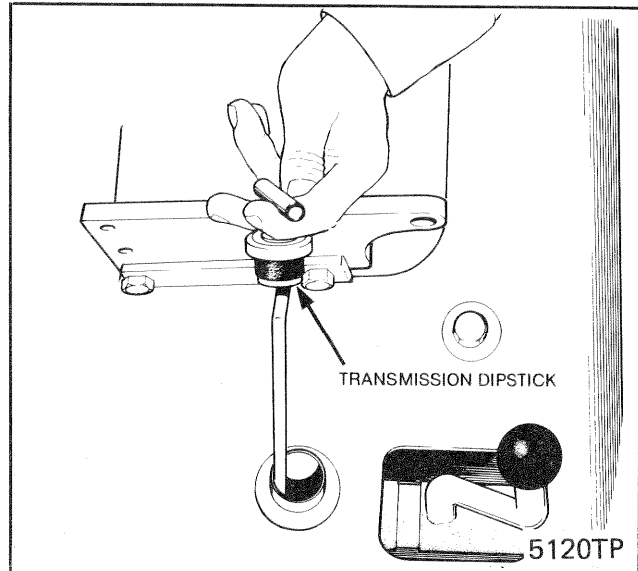

Fig. 9-1 Transmission Filler Neck and Dipstick
Check using the dipstick located on the right hand side of operator seat (See Fig. 9-1 for the position). Pull out dipstick and wipe with a clean, lint free cloth. Re-insert to check the fluid level, pushing the dipstick down firmly. The fluid level must be at the FULL mark on the dipstick. If the fluid level is below the FULL mark, fill as necessary then re-check oil level.
7. Refill the transmission, torque converter and winch with the type of fluid specified in this manual through the filler neck (Fig. 9-1.) until the correct level shows on the dipstick. Approximate capacity — 4.5 gallons (Imperial measure), 5.4 gallons (U.S. measure), 20.5 litres.
10. Refill the transmission, torque converter and winch. Restart and run the engine for 5 minutes at approximately 1,500 rpm, checking the filter assemblies, drain plug, hoses and connections for leaks. Recheck the transmission fluid level when it is at operating temperature (180°F. to 200°F or 82.2°C. to 93.3°C.). Add fluid as necessary. Fig. 9-1.